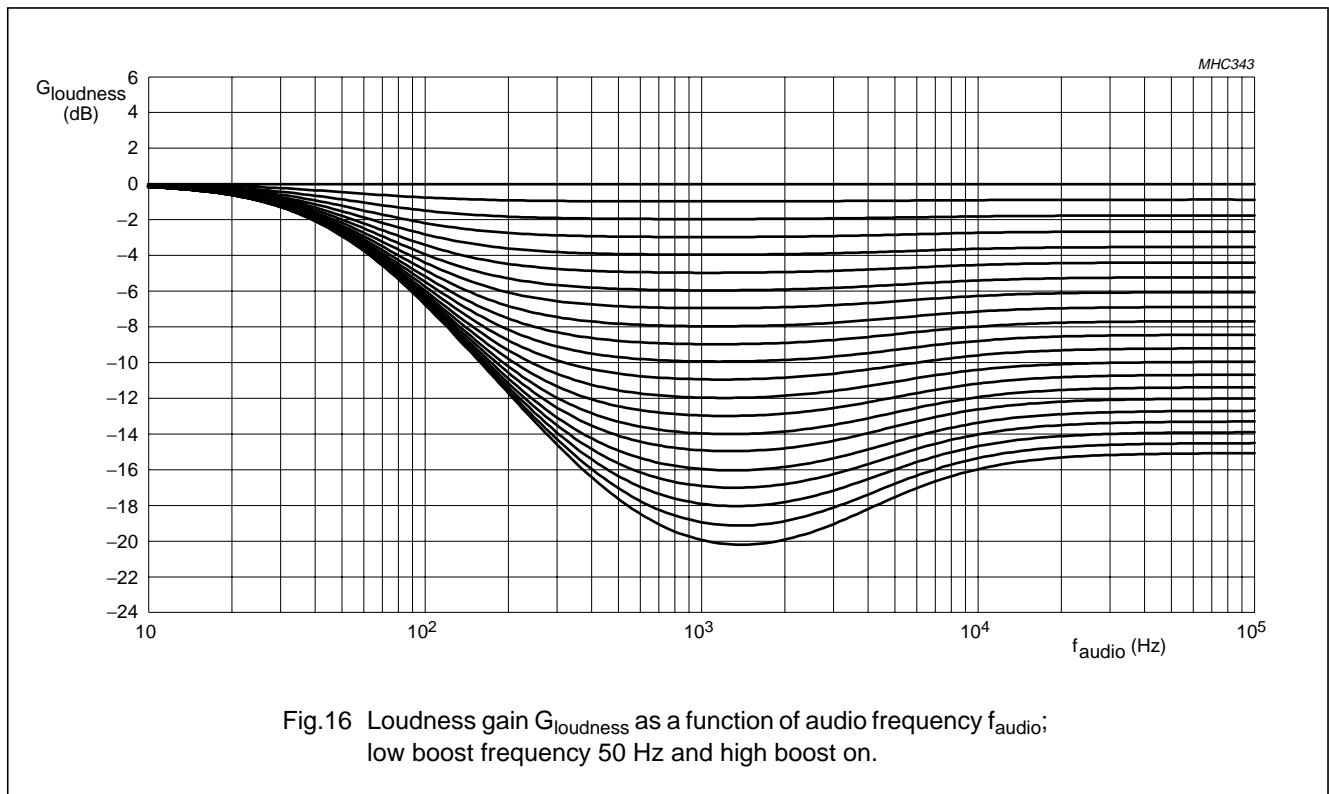

Fig. 16 Loudness gain  $G_{\text{loudness}}$  as a function of audio frequency  $f_{\text{audio}}$ ; low boost frequency 50 Hz and high boost on.
**Table 45** Description of data byte CH, see Figs 16 to 19